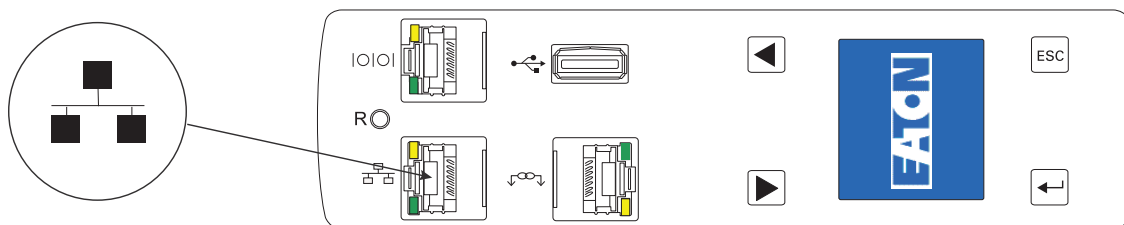

Figure 29. Connecting the ePDU to a LAN (0U Models)
2. Connect one end of the cable to the Ethernet connector on the ePDU (see Figure 29). Connect the other end of the cable to the Ethernet connector on the router (or other LAN device).